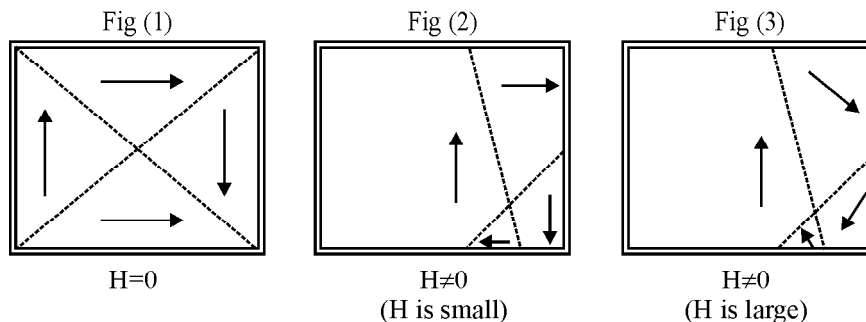

Fig. 3.9 Domin theory of ferromagnetism
When a small amount of magnetic field is applied, the domains having dipoles parallel to the applied magnetic field increases in area by the motion of domain walls. (Fig. 3.9 (2)).
If the applied magnetic field is further increased, the domains are rotated parallel to the field direction by the rotation of domains. (fig. 3.9 (3)).